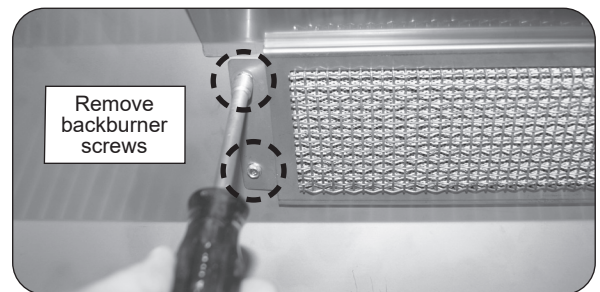

Fig. 46-3 Remove backburner mounting screws
2. Remove the backburner mounting screws (1/4" hex) located at the left end of the backburner assembly (see Fig. 46-3).